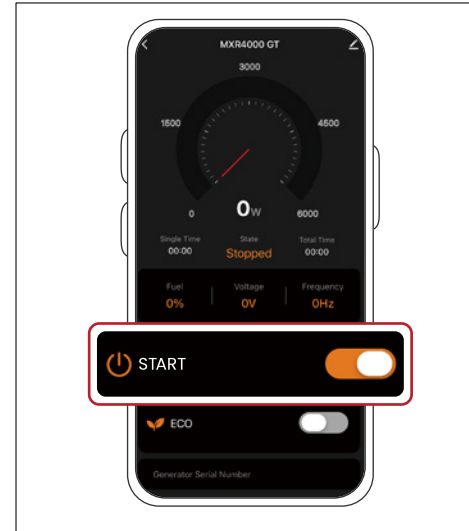

Fig.16
- Bluetooth® Start:** Press the start button on the App to start the generator (see Fig.16).